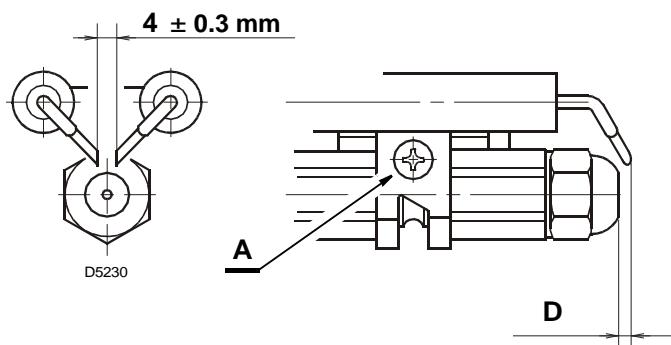

Fig. 20
- Hook the burner to the flange (1), by removing the blast tube (2) after loosing the fixing screws (3).
- Remove the electrodes assembly (5) from the nozzle holder (4) after loosing its fixing screw (A, Fig. 20).
- Screw the nozzle (6).
Before removing or assembling the nozzle, loosen the screw (A, Fig. 20) and move the electrodes ahead.